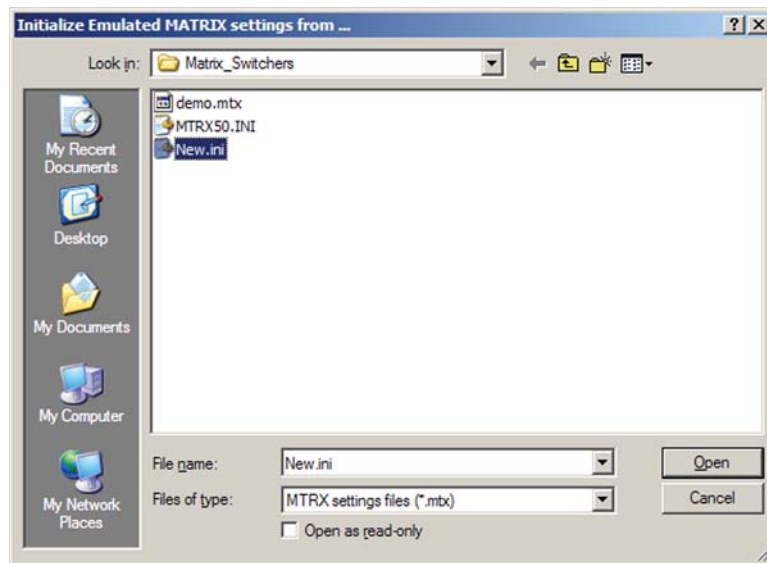

Figure 5-19 — Selecting an emulation file
1. To run the Button Label Generator program, double-click on the Button Label Generator icon (shown at right) in the Extron Electronics group or folder. The Button-Label Generator window appears (figure 5-19 on the next page).